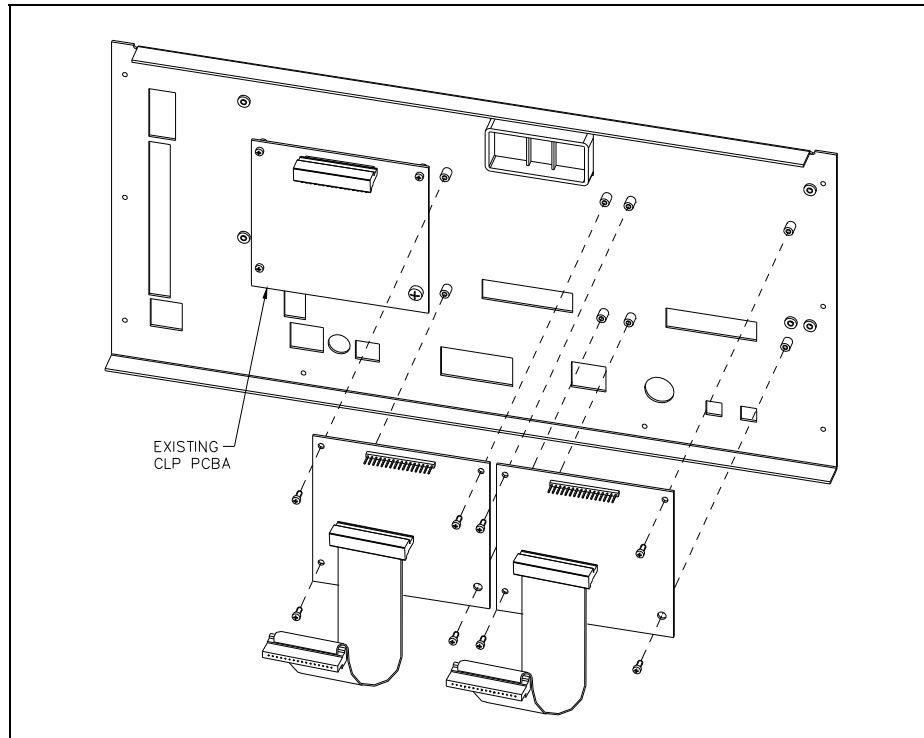

Figure 5. Inside of Rear Cover
3. Mount the new CLP PCBA next to the existing CLP board using the four threaded stand-offs with the #4-40 screws provided. See Figure 5.